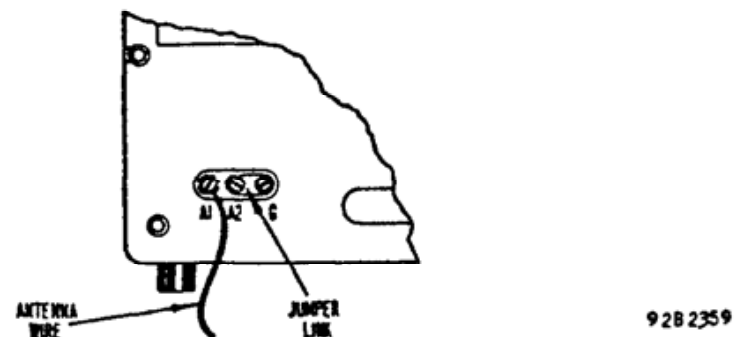

Fig. 2. Single Wire Antenna
**Single-Wire Antenna.** The simplest antenna and one which will provide satisfactory performance throughout the entire tuning range is a conventional single-wire antenna. In most localities, satisfactory results can be obtained with just the 15-foot antenna wire included with the receiver. It is simply necessary to attach one end of this wire to terminal "A1", connect the jumper link between "A2" and "G", and then run the wire about the room in any convenient manner. (See Fig. 2.)